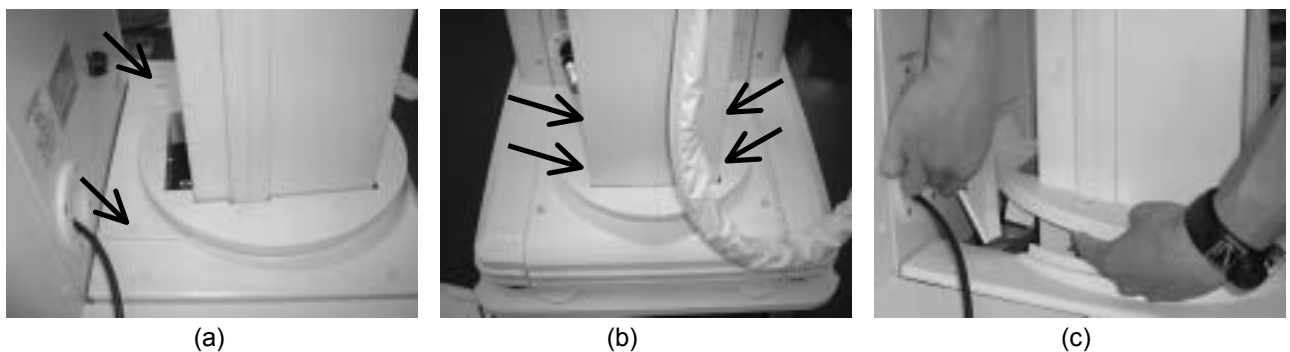

Fig. 3-10 Method of opening/closing the front rear-cover
1. Unscrew the two screws as shown in Fig. 3-10 (a).
2. Unscrew the four screws in the column under-cover as shown in Fig. 3-10 (b).
3. Remove the front rear-cover, slightly holding up the column under-cover, as shown in Fig. 3-10 (c).